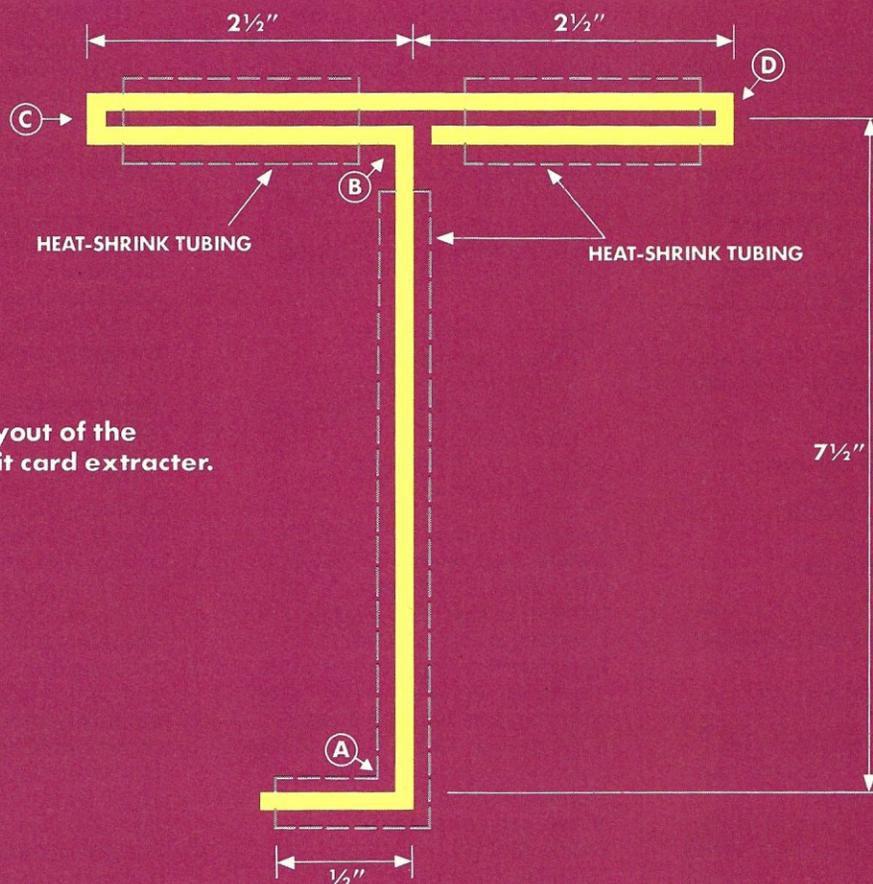

Figure 1.
Each card extractor is made by bending an 18" length of $\frac{1}{8} \times \frac{3}{16}$ aluminum welding rod into a "T" with a hook (see Figure 1). I purchased a 36" aluminum welding rod at a hobby shop for 30¢. When constructing the card extractors, make a 90° bend at (A). Then slide an 8" piece of heat-shrink tubing down the long portion and work it around the